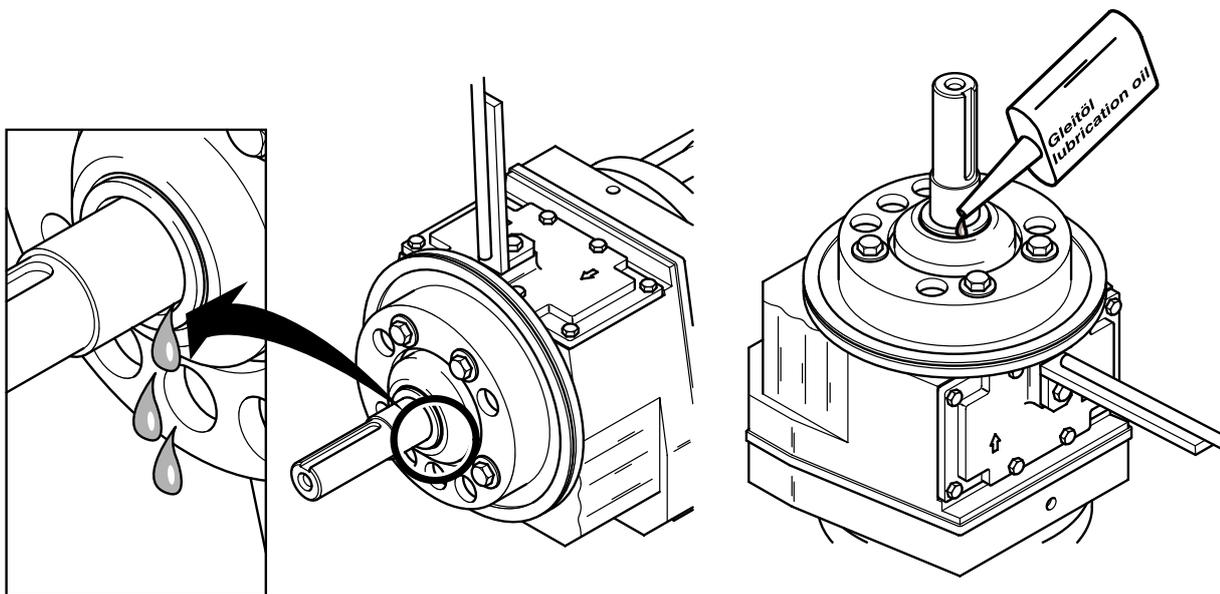

Figure 16 Oil filling and oil change
NOTE The flow booster should be set up vertically (see Figure 16) so that the oil does not gush out of the unit when the rotating part of the mechanical seal is removed.
- Place flow booster vertically (as shown in Figure 16) and ensure that it cannot topple over.
NOTE *The flow booster should be set up vertically (see Figure 16) so that the oil does not gush out of the unit when the rotating part of the mechanical seal is removed.*
- Release the oil along the shaft gap as shown in Figure 16 into a suitable container (min. 0.5 l). When doing this tilt the motor and gearbox unit sufficient to allow the lubricating oil to fully flow out.
- The new oil is filled in along the gap between the fixed ring and the shaft in a similar manner to when releasing the oil (see Figure 16).